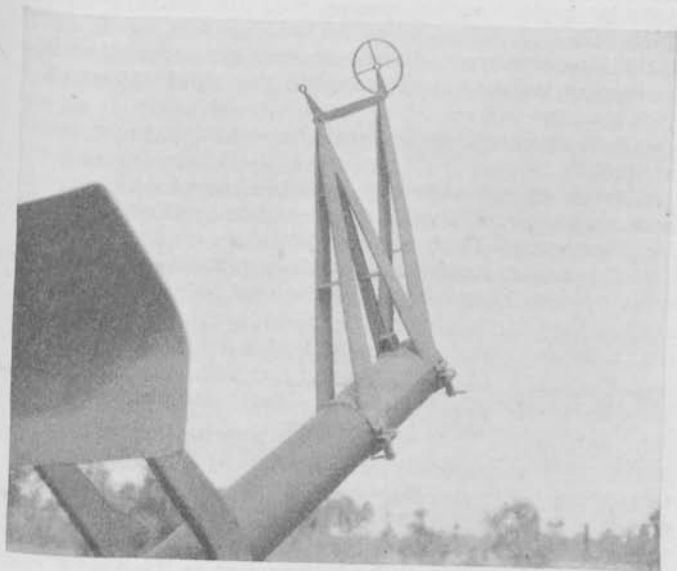

FIGURE 71.—Sight with machine gun mount M3.
■ 113. *Alinement Sights*.—An alinement sight is issued for use with the M3 mount and may be used on any water-cooled gun. (See fig. 71.) The front element of the sight is merely a small center alinement ring supported in a larger ring. The outer ring may be used to help estimate an initial lead. It is a 300 mile per hour midpoint speed ring. The rear element is